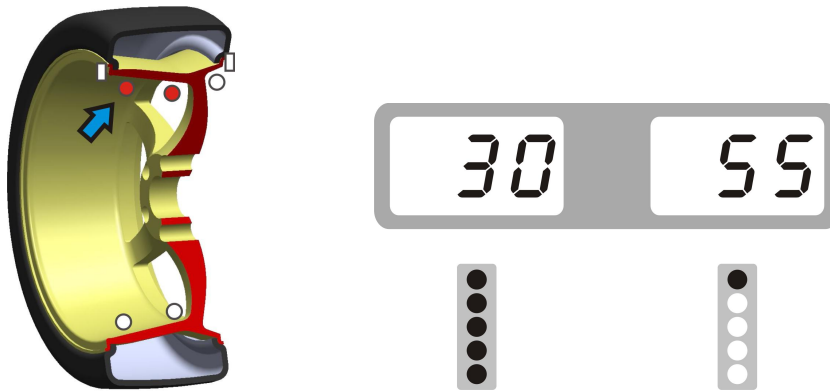

Fig. 11
4.3.6. Anticlockwise moving wheel slowly, the displays with left LED's lit up full indicate the correct angular position where to mount the counterweights, **12 o'clock position** inside, as **Fig.11**, add the counterweight.